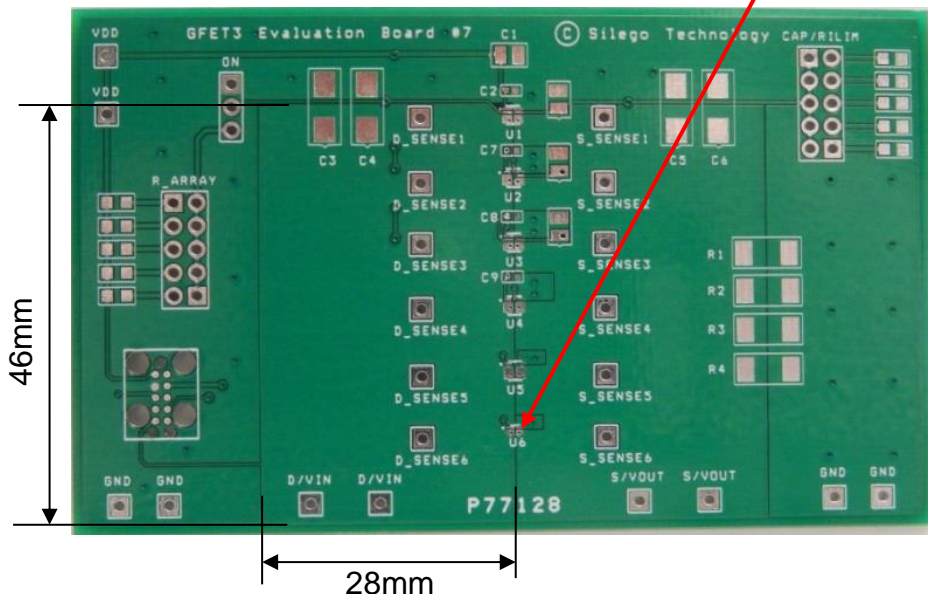

Figure 3. SLG59M1557V Evaluation Test Board
2.2. The D/VIN and S/VOUT pins carry significant current. Please note how the D/VIN and S/VOUT pads are placed directly on the power planes in Figure 3, which minimizes the RDS(ON) associated with long, narrow traces. The D/VIN, S/VOUT and GND pins dissipate most of the heat generated during high-load current condition. The layout shown in Figure 3 is illustrating a proper solution for heat to transfer as efficiently as possible out of the device.